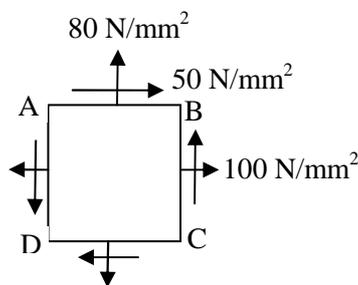
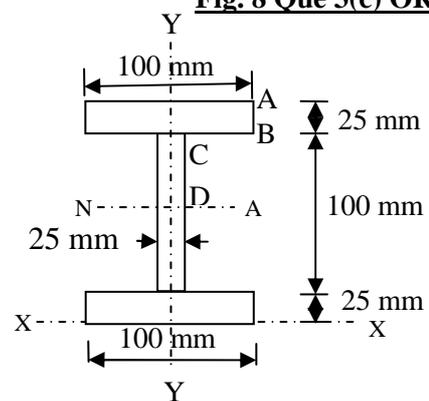

Fig. 10 Que 4 (c) OR
Fig.11 Que 5 (c)
- (c) At a point in a strained material the state of stress is as shown in **fig. 10**. Determine (i) location of principal planes (ii) principal stresses and (iii) maximum shear stress and location of plane on which it acts. **06**
- Q.5** (a) Derive relation between bulk modulus (K), poisson's ratio ($1/m$), and modulus of elasticity (E). **04**
- (c) At a section of beam shown in **fig. 11**, shear force is 150 kN. Determine shear stress at points A, B, C and D and draw shear stress distribution across the section showing above stresses. **06**